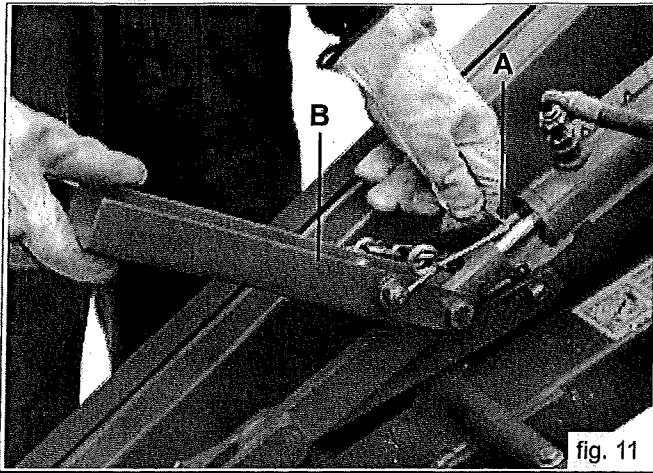
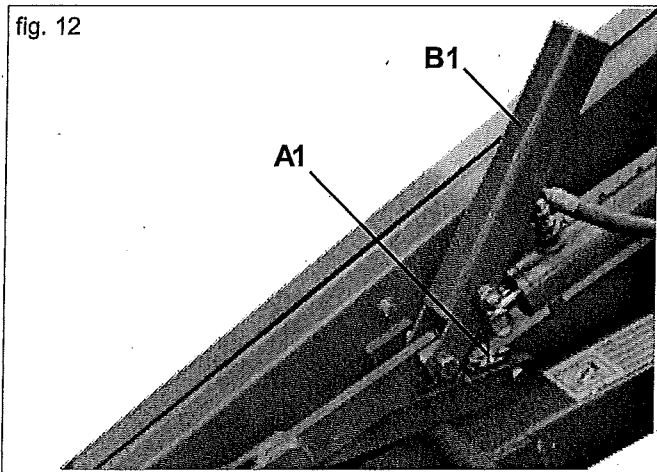

fig. 11
fig. 12
To operate the device, put the spring (A Fig. 11) in position (A1 Fig.12) (under the cylinder rod), so that the cylinder bracket (B) is released forwards towards position (B1 Fig. 12).